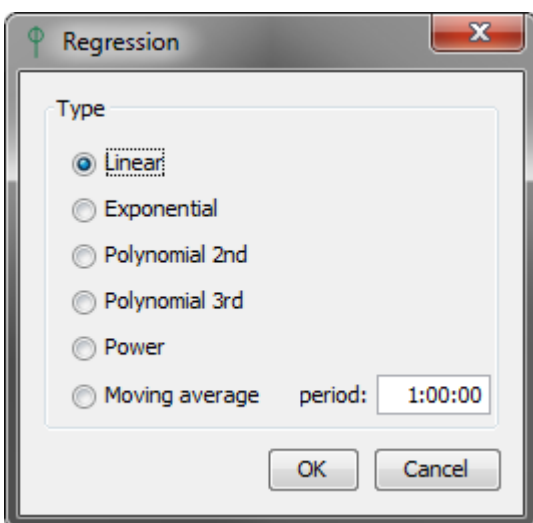

Fig. 16 Regression options dialog
4. Select proper regression type in displayed dialog – see Fig. 16.